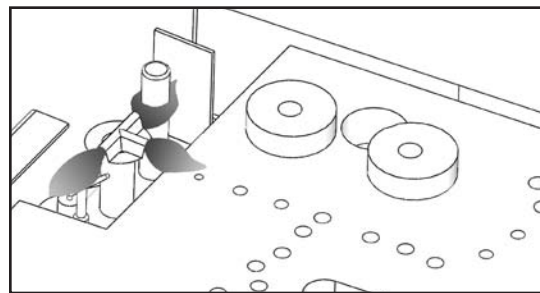

Figure 6: Pilot Flame.
1. Turn off the gas to the fireplace. **If not recently done, remove the door and let the unit air out for at least five (5) minutes to clear out any gas.** Turn on gas to the heater. Leak test all joints with soapy water. **NEVER USE OPEN FLAME FOR LEAK TESTING.**
2. Start the pilot by pressing the gas control knob and turning it to PILOT. While holding the gas control knob in, press the piezo ignitor several times until the pilot light starts. Hold the gas control knob in for 30 seconds. Check that the pilot has fully engulfed the thermocouple assembly (refer to Figure 6).
Periodically do a visual check of the pilot flames. One flame should encompass the ignitor and thermocouple and the other should burn over the burner ports (see Figure 6). Also check that the burner is operating correctly, refer to Figure Figure 43 or Front Cover.